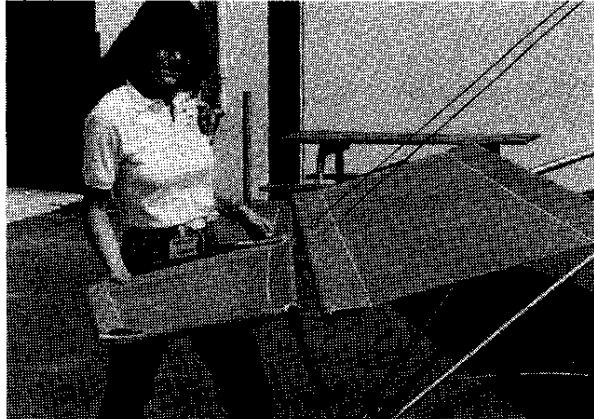

Figure 2.50
- 56.** Position elevator by aligning elevator eyebolts with forks on stabilizer trailing edge. **Figure 2.50**